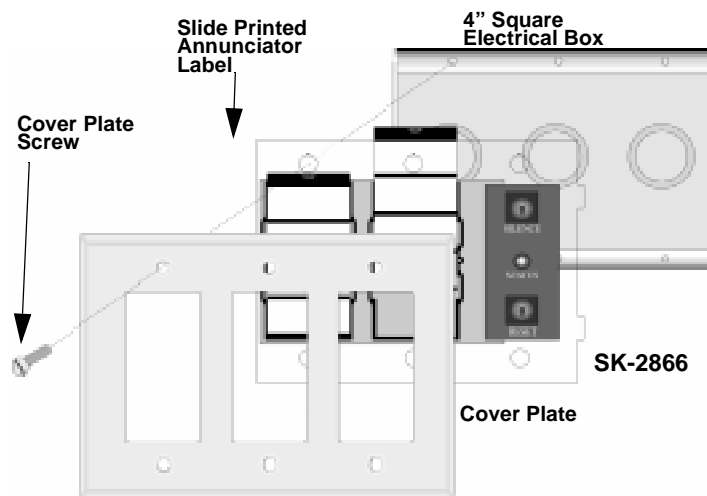

Figure 4-9 Mounting the SK-2866
2. Slide the printed annunciator label into place on the SK-2866. The label fits between the LEDs and the clear plastic plate. See Figure 4-9.
3. Place the SK-2866 into the standard 3-gang electrical box. See Figure 4-9.
4. Place the cover plate over the top of the SK-2866 and align the holes. See Figure 4-9.